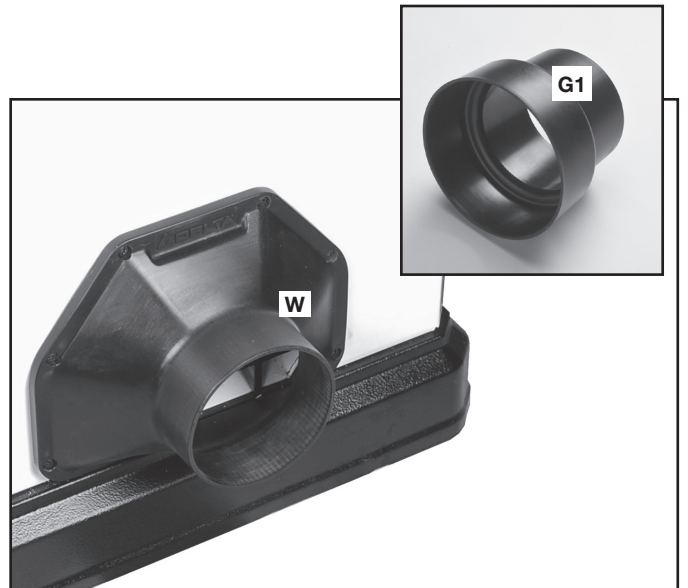

FIG. 18
The Unisaw comes with a 5" (127 mm) dust hose adaptor (W) Fig. 18 installed. Also included is a 5" (127 mm) to 4" (102 mm) dust port reducer (G1).
To install the dust port reducer, firmly slide the reducer (G1) Fig. 18 onto the dust hose adaptor (W).